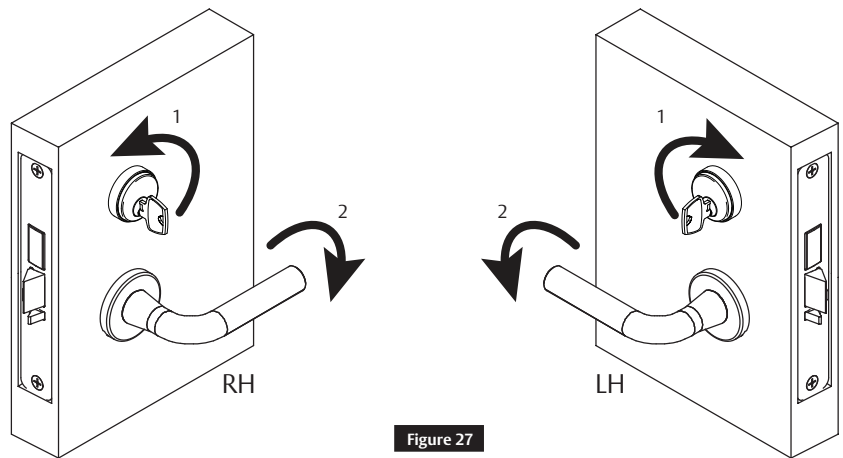

Figure 27
5. Continue holding key, rotate lever with other hand and open door. (Figure 27)